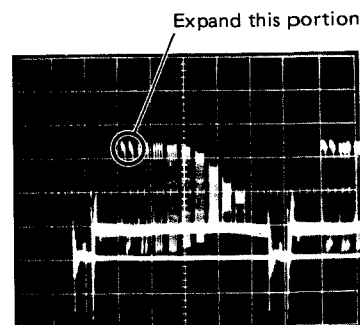

Fig. 5-5-1
- o Trigger the oscilloscope at H rate. (Use TP4 (HD), Deflection board.)
- o Expand the 0.5MHz - cycle portion on the oscilloscope. (Fig. 5-5-1)